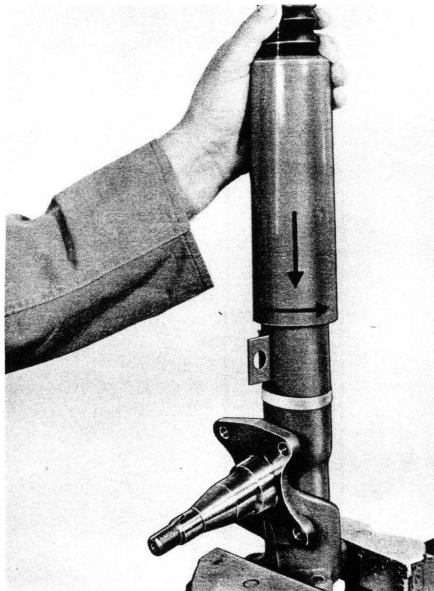

Fig. 61
5. Starting from the original position, turn the tube one-half or more turns to the right until the desired damping action has been reached (see Fig. 61). Pull plunger rod up again to disengage the adjusting components. Maximum adjustment range is 2 1/4 turns.